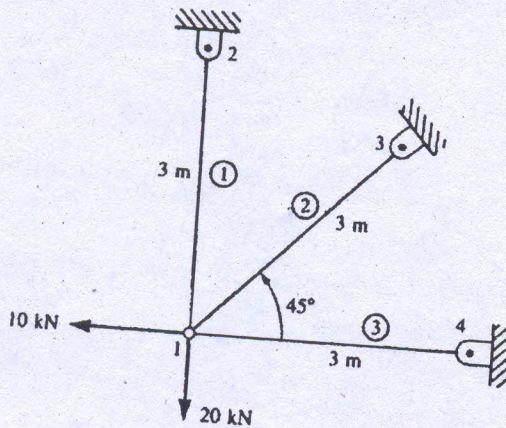

Figure 2
- (b) For a plane truss shown in Fig. 2, determine the horizontal and vertical displacement of node 1 and the stresses in each element. The cross sectional area and Young's modulus of truss elements are $4.0 \times 10^{-4} \text{ m}^2$ and 210 GPa respectively.